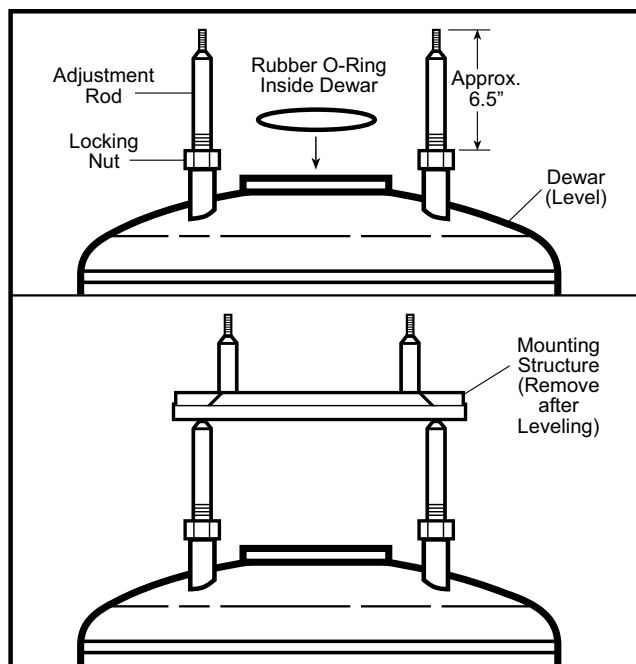

Figure 3-3 Dewar: Adjustment Rods, O-Ring, and Leveling the Mounting Structure.
2. Remove the dewar from its shipping crate, place it in its planned location, and level it. Thread the locking nuts onto each of the four adjustment rods, then thread the rods into the dewar. Lock the rods so that approximately 6.5" of the rod protrudes from the top of the locking nut. (Figure 3-3).
The dewar comes with O-rings taped to its top. Inspect one of the O-rings for cracks, then seat it properly in the top of the dewar (Figure 3-3).
3. Fit the VSM Mounting Structure onto the four adjusting rods. With the 1 1/8 inch Open-End Wrench, turn the adjustment rods until the mounting structure is level. After leveling, remove the Mounting Structure and set it aside (Figure 3-3).